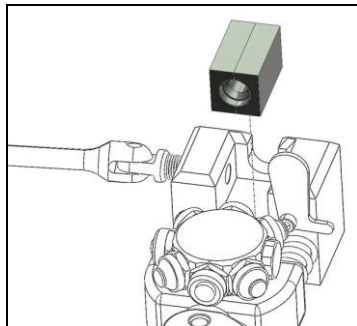

Figure 1
1. Place the required die set into the die cavity with the forming end toward the turret (**Figure 1**).